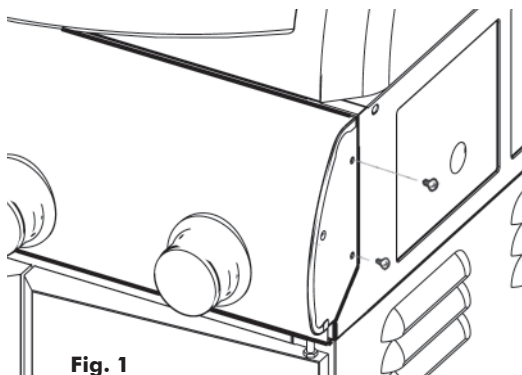
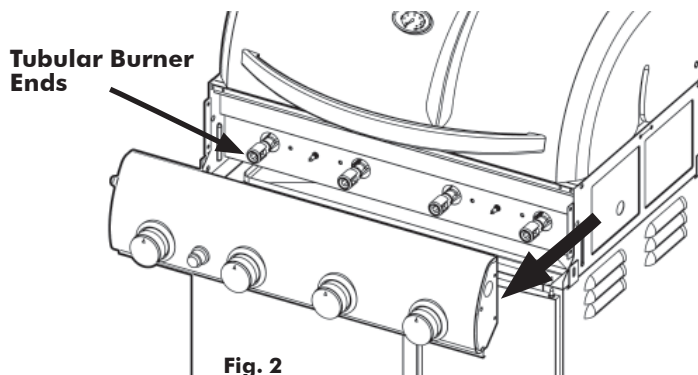

Fig. 1
Fig. 2
4. Figures 1, 2, 4 and 4a show the grill at assembly step 7, prior to attaching the Side Tables, and illustrate the initial steps in the "FIRST TIME USE LEAK TEST".
Detach the Control Panel from the Grill Body/Firebox by removing the two 5/32" Bolts from each end. (Fig. 1) Gently pull the Control Panel away from the Body until Valves disengage from the Tubular burner ends. (Fig. 2) Support the Control Panel to keep tension off of the igniter wire leads or detach the wire leads from the Starter Button module.
10. Re-attach the wire leads to the Igniter Button. Replace Control Panel around flanges at Bowl ends and align bolt holes on each side. Replace and retighten all bolts. (Fig. 1)